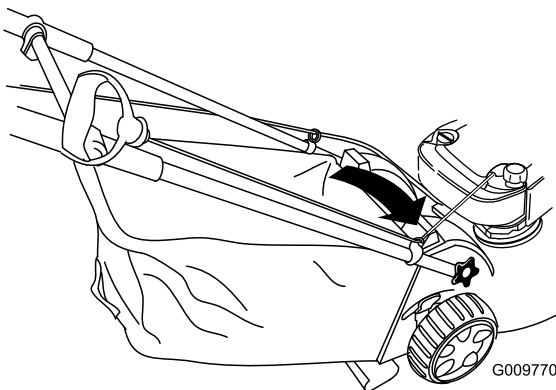

Figure 30
1. Route the starter rope around the lower-rope guide (Figure 30).